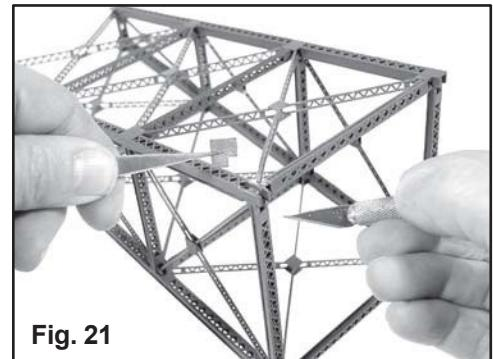

Fig. 21
22. Remove the four tower gusset plates at the base of the three story tower. See Fig. 21.